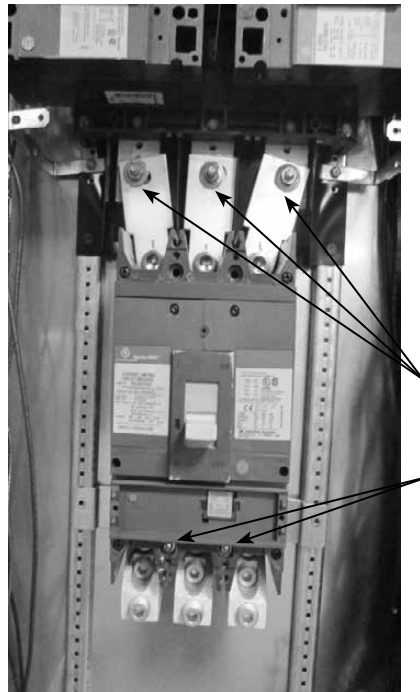

Figure 5. Removing vertical device strap nuts and mechanical mounting hardware.
6. If the panelboard has a vertical main device and/or a vertical sub-feed device, remove the devices along with straps connecting the devices to the panelboard bus. The straps are connected through 5/16" nuts located on the bus studs. Additionally, remove any other hardware used to mechanically mount the device. Location of the nuts and mounting hardware for a vertical main device is shown in Figure 5. Set aside.